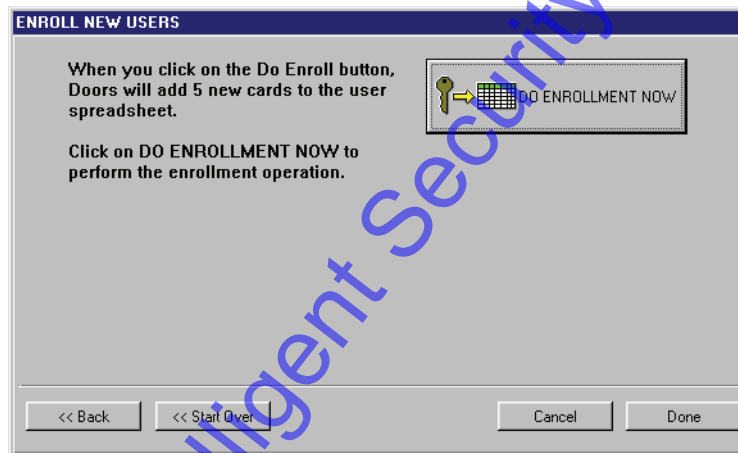

Figure 4-14: Enroll New Users Confirmation Window
10. Click on the  button. The Enroll New Users window displays a confirmation of enrollment (see Figure 4-14).